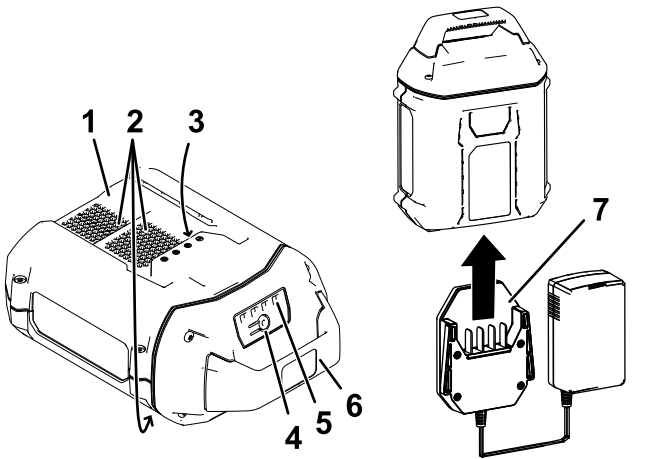

Figure 10
- Line up the charger with the cavity on the back of the battery pack (Figure 10).
- Slide the charger into the battery pack until it is fully seated (Figure 10).